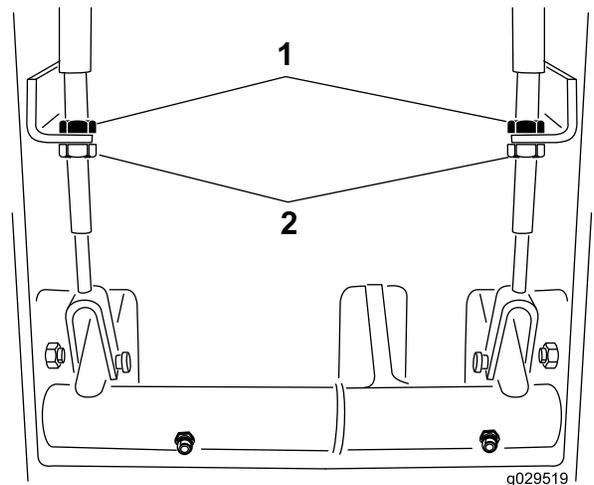

Figure 72
2. To reduce the free travel of the brake pedals, loosening the front jam nuts at the threaded end of the brake cable (Figure 72).